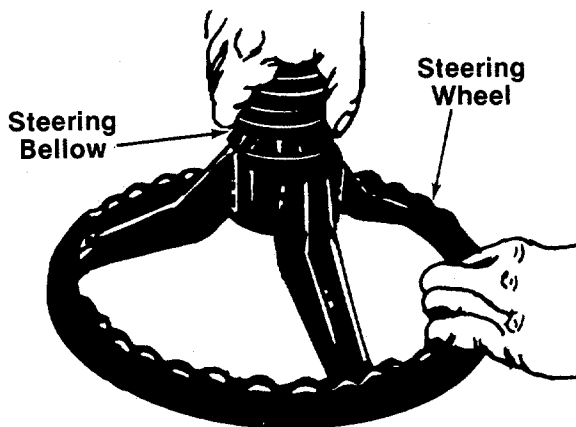

FIGURE 5.—Models 811, 823, 825, 827, 833, 835 and 837
2. **Models 811, 823, 825, 827, 833, 835 and 837 only:** Attach the plastic steering bellow to the steering wheel as shown in figure 5.